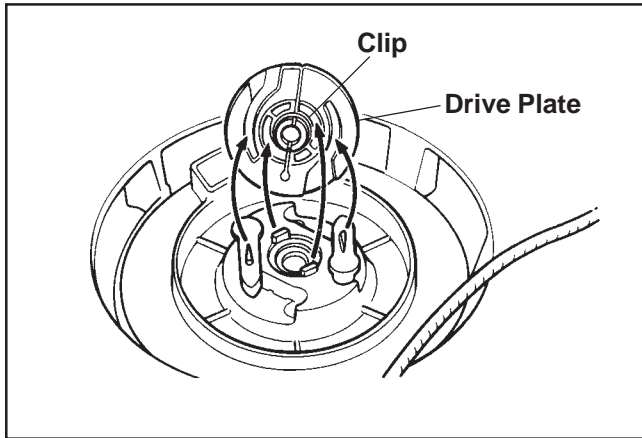

Figure 7-7. Drive Plate and Pawl Details.
6. Position the drive plate over the pawls, aligning the actuating slots in the plate with the raised sections on each drive pawl. Torque the center screw to **5-6 N·m (44-53 in. lb.)**. Rotate the pulley by hand and check operation. See Figure 7-7.